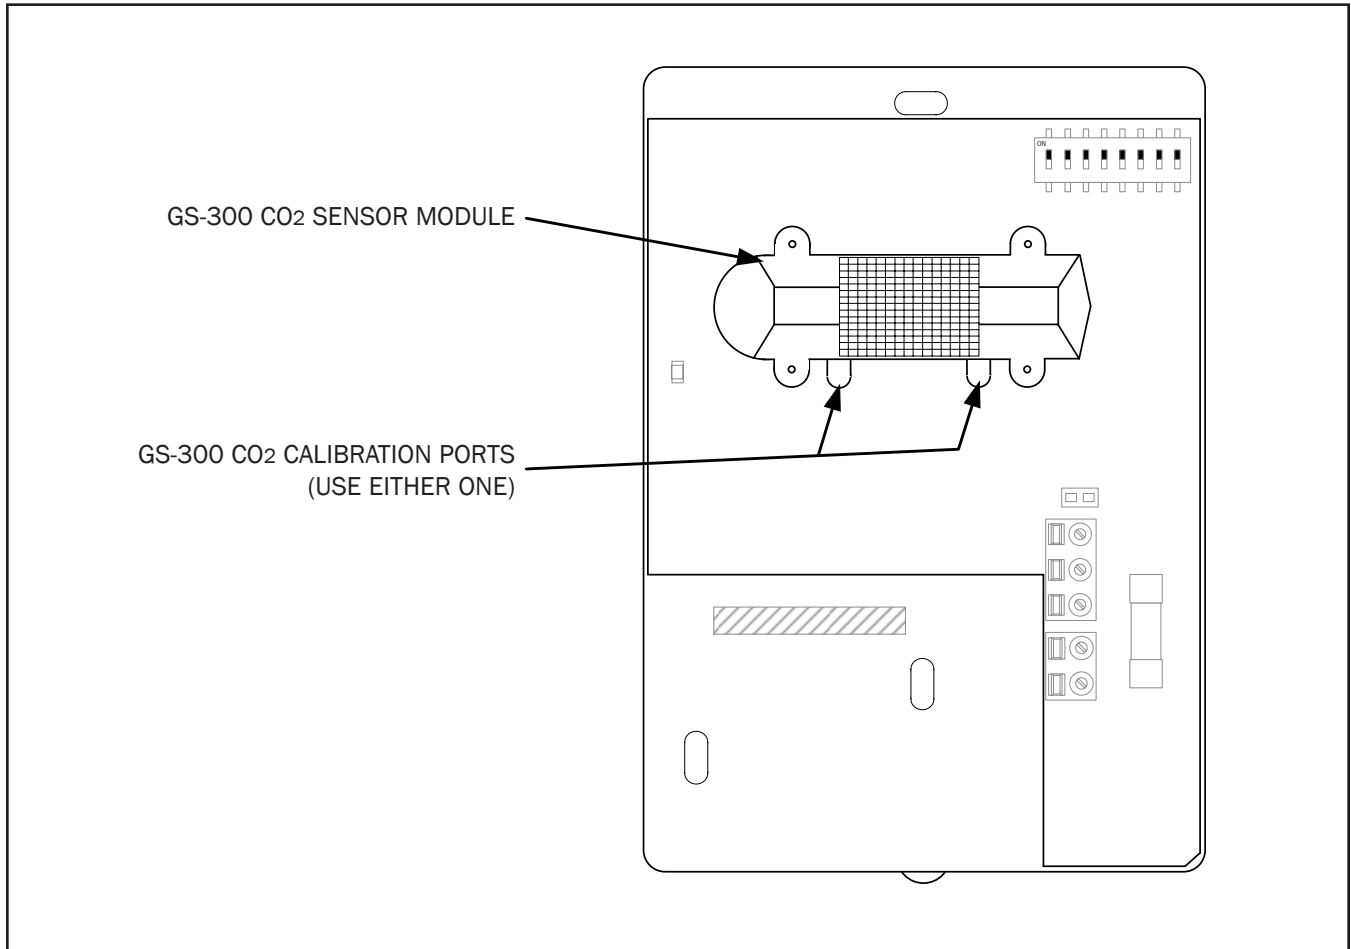

Figure 9. GS-300 CO₂ Calibration Ports
3. Remove the port covers from the GS-300 CO₂ calibration ports (Figure 9) and attach suitable tubing from the reference gas regulator to either port.